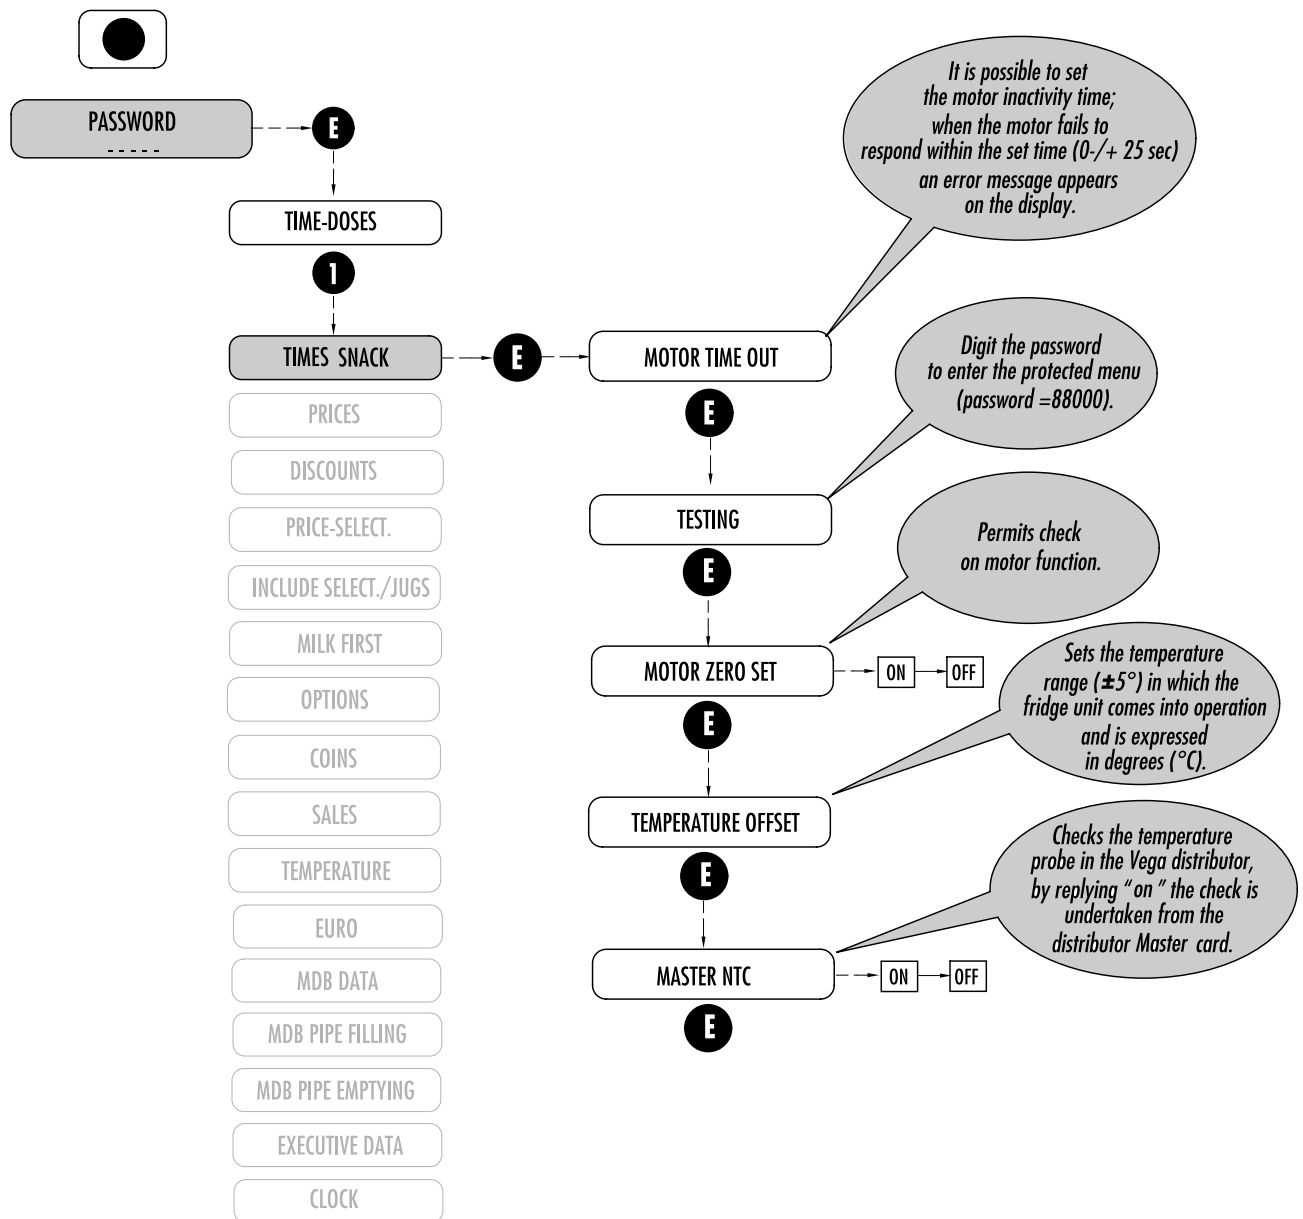

Fig. 7.5
7.2.2 TIMES SNACK (with Master/Slave) (Fig.7.5)